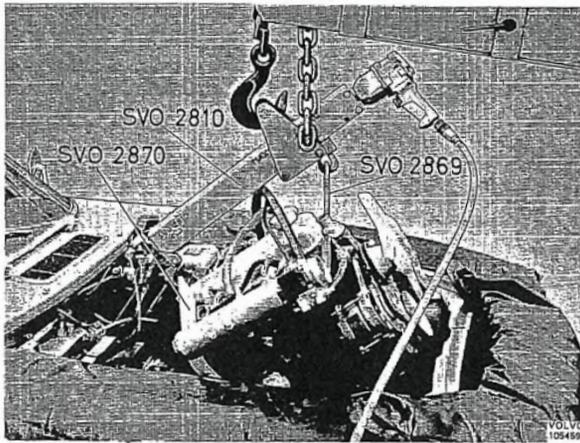

Fig. 2-9. Lifting out engine
23. Hook lifting beam 2810 onto the lifting lugs and adjust the block and tackle unit at the rear end. Hoist so that the rear end lifts (see Fig. 2-9).